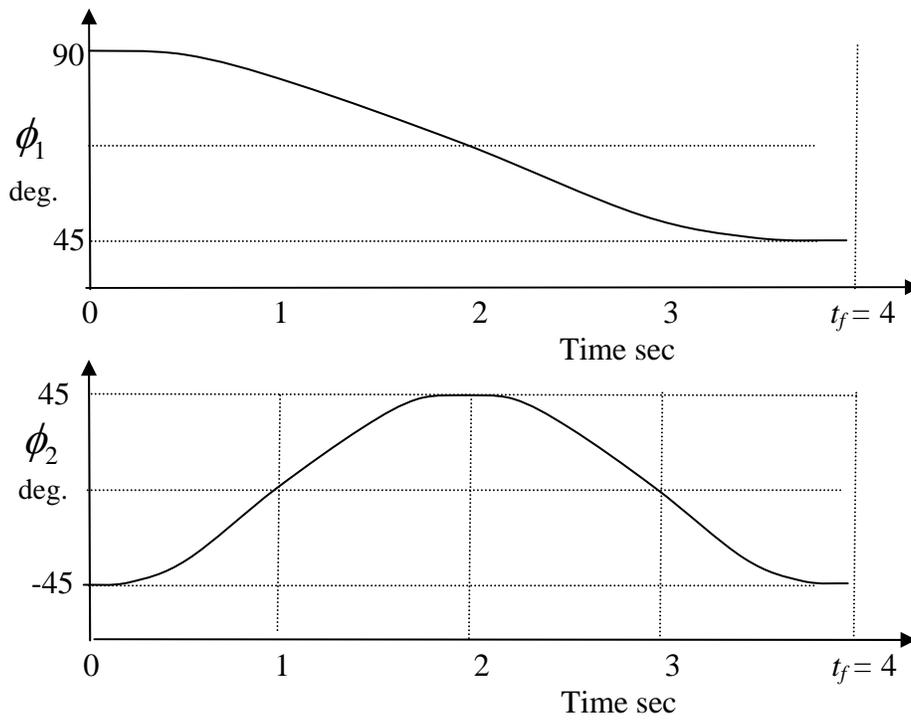

Figure 7 Trajectories
- Consider the cosine curves shown in Figure 7 for the trajectories of  $\phi_1$  and  $\phi_2$ . Compute the angular velocities and accelerations,  $\dot{\phi}_1$ ,  $\dot{\phi}_2$  and  $\ddot{\phi}_1$ ,  $\ddot{\phi}_2$ , along the trajectories, and then obtain the feedforward torques for tracking the trajectories from time  $t = 0$  to  $t = t_f$ .